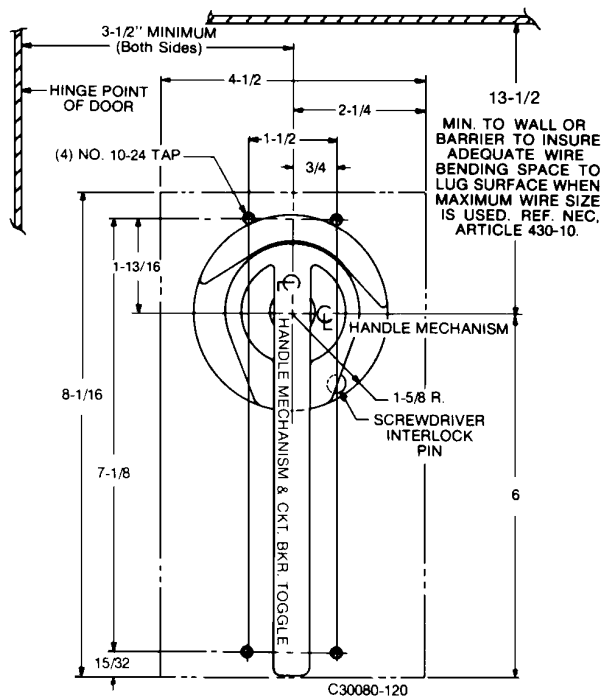

Figure 2 Panel Drilling
4. Determine location of circuit breaker on panel (see Figure 2). Mark location and drill four 11/64" diameter holes for the four #10-24 x 3-7/8" thread forming mounting screws (item 15).
5. Place black adhesive ON-OFF mask (item 8) over the ON-OFF markings of the circuit breaker. This eliminates false circuit breaker status readings when the external operating mechanism is mounted.
If an authorized person requires access when the handle and circuit breaker are in the "ON" position, the screwdriver interlock pin can be defeated (see Figure 2 on page 3).